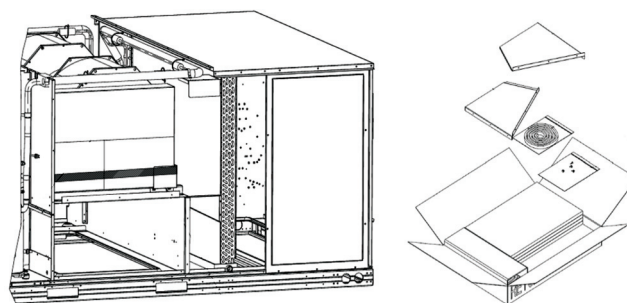

Fig. 31 — Barometric Hood Box Parts Location
2. Remove the side panels located in the hood parts box (see Fig. 31).